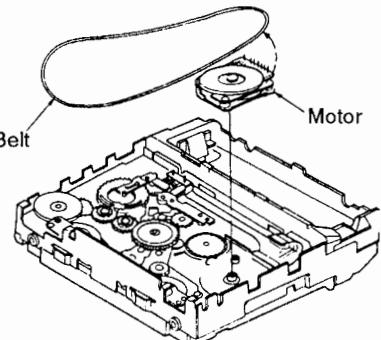

Fig. 3
6. Remove the belt from the motor. (Refer to Fig. 3.)